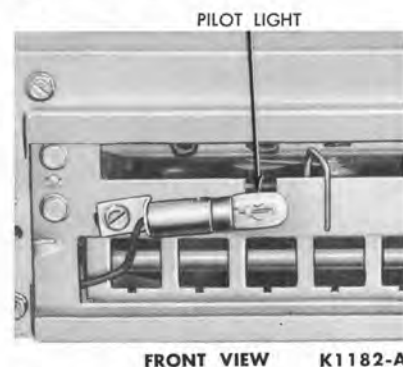

FIG. 5—Pilot Light Location—Typical
1. Remove the radio from the car, and remove the dial retaining plate (Fig. 5).